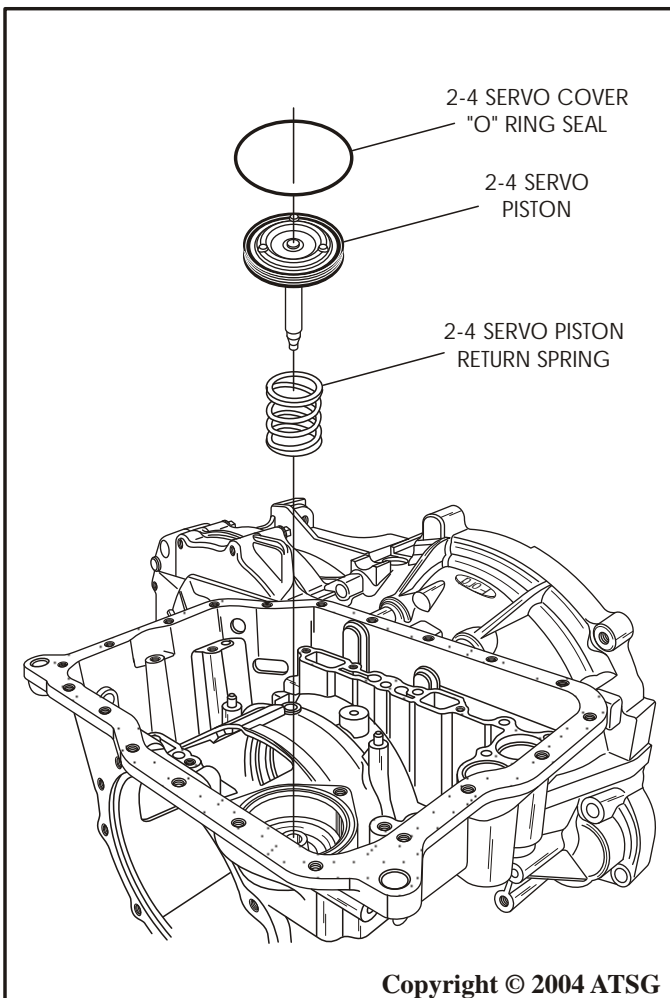

Figure 46
43. Remove and discard the servo cover "O" ring seal, as shown in Figure 46.
44. Remove the 2-4 servo piston, as shown in Figure 46.
45. Remove the 2-4 servo piston return spring, as shown in Figure 46.